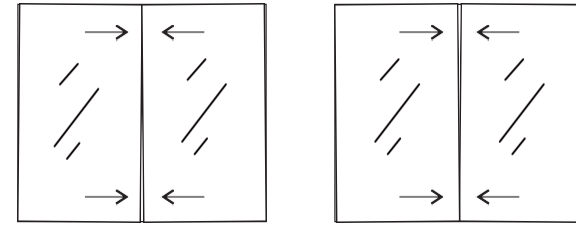
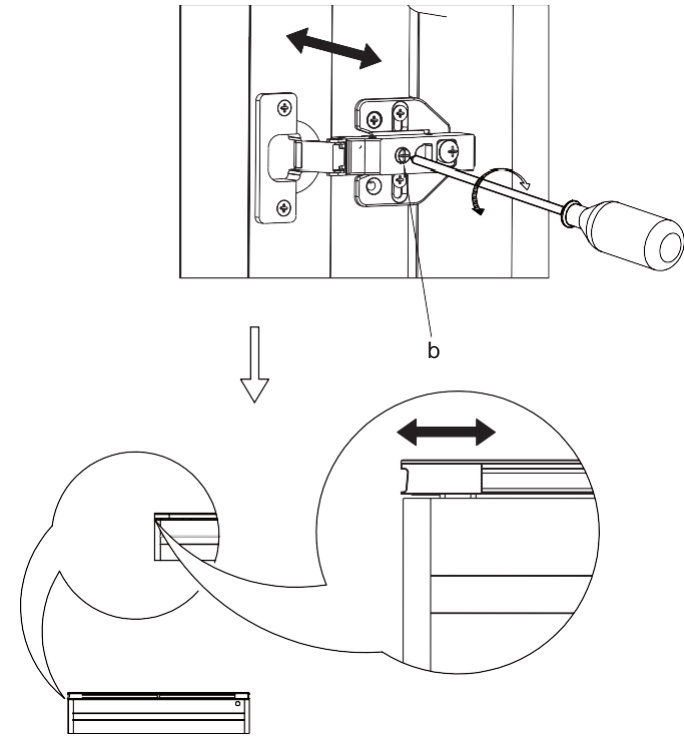

Fig. 8
Fig. 9
3.1 Fix the mirror cabinet, and check if the mirror door is flat; if not (as shown in Fig. 8), adjust the distance of the door opening by adjusting the hinge screw (b) and keep both doors level (Fig. 9).